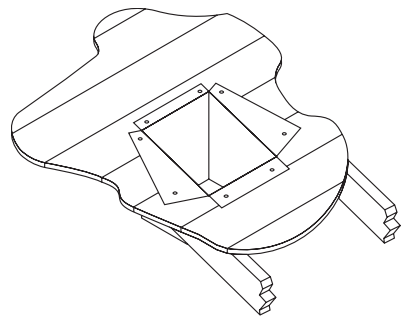

Figure 21
7. Using tin snips, cut the Support Box from the top corners down to the roof line, and fold the resulting flap over the roof sheathing (**Figure 21**). Before nailing it to the roof, run a bead of non-hardening sealant around the outside top edges of the Support Box so as to make a seal between the box and the roof. Clean out any combustible material or debris from inside the Support Box.